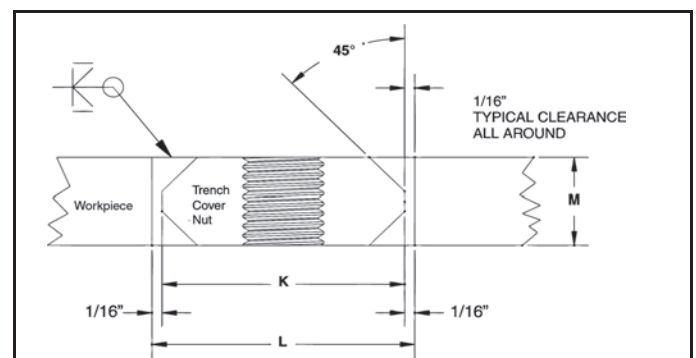

Figure 5
3. Insert the trench cover nut into the hole. The trench cover nut should have 1/16" clearance around its outer edge. The surface of the trench cover nut must be parallel and even with the surface of the plate (See Figure 5). A welding fixture is available from Crosby for this.